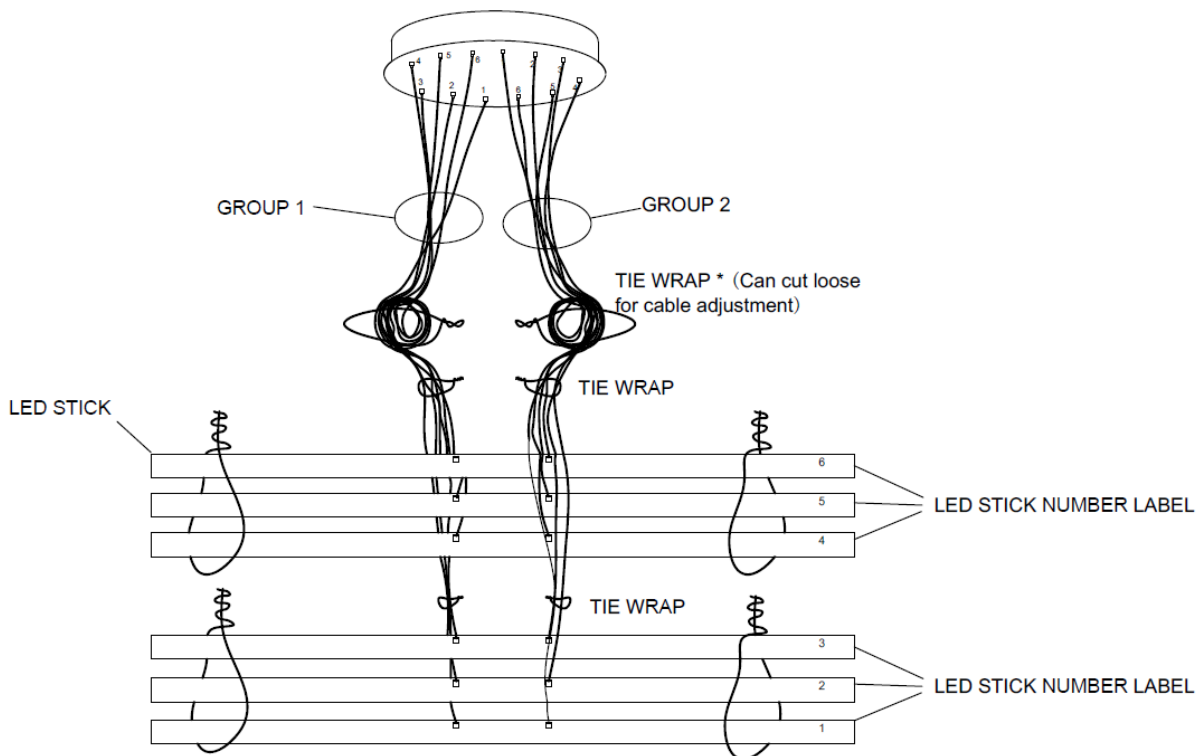

Fig. 1
5. Layout the LED sticks (with the diffuser facing down) on a protective surface and replicate the order in Fig. 1.
6. Sorting the wires into two groups (see Fig. 1). Each group consists of wires from 1 to 6 (no duplicated numbered wire in each group).